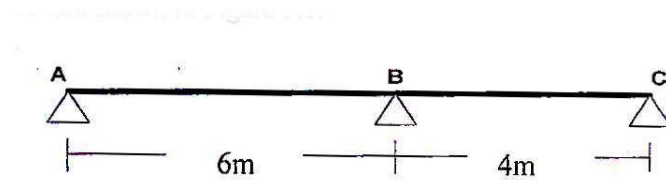

Fig. 9(a)
9. (a) Draw ILD for the reaction at A, B and C. Also draw ILD for shear force at midpoint of AB and BC for the beam shown in Fig. 9(a). [8]